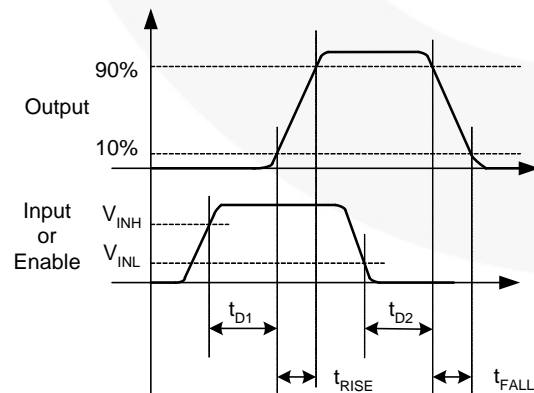
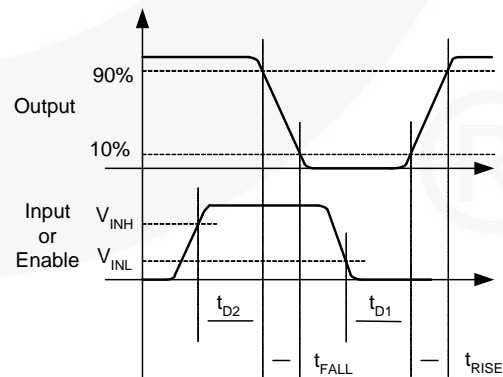

Figure 4. Non-Inverting
Figure 5. Inverting
11. See the Timing Diagrams of Figure 4 and Figure 5.